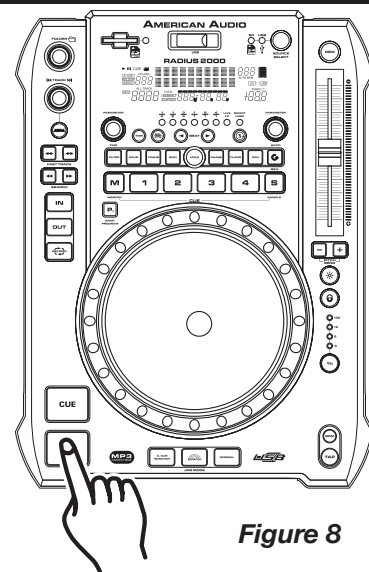

Figure 8
4. STARTING PLAYBACK - *Figure 8*
5. PAUSING - *Figure 8*
6. STOPPING PLAYBACK - *Figures 8 & 9*